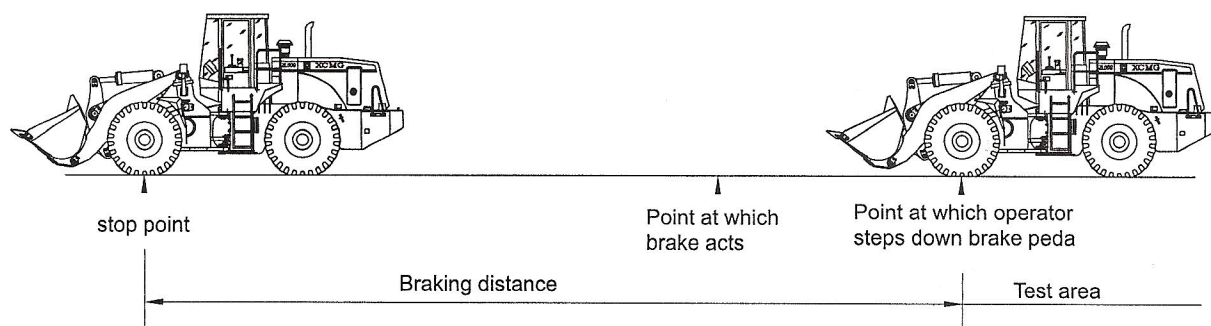

Fig. 05-32
- (4) Measure the distance between the place where the machine stops and one where you just step down the brake pedal (See Fig. 05-32).